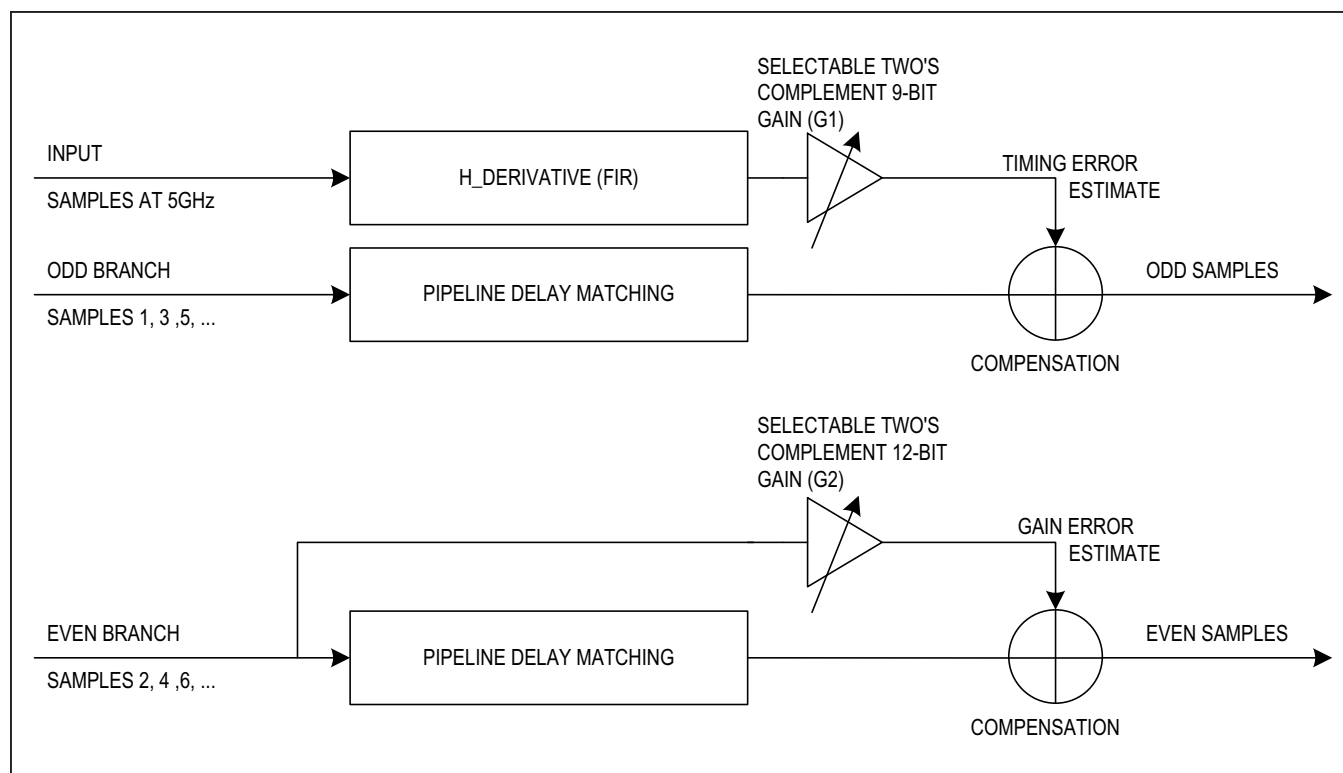

Figure 22. $f_{DAC/2} - f_{OUT}$ Correction Block
- **DAC Interleaving-Error Compensation:** Since the DAC is updating on both clock edges, every other sample has an error resulting from the clock duty cycle being different by 50%. The DAC can also have a gain error in every other sample. The DAC interleaving compensation can correct for these two errors. By optimizing for these errors, the $f_{DAC}/2 - f_{OUT}$ image is minimized. The block diagram of the DAC interleaving-error compensation block is shown in Figure 22.
programmable parameters, ranges, and resolution. Review the Register Descriptions section for programming information. The DAC interleaving compensation shown in Figure 22 contains two paths. Interleaving compensation adjusts for gain errors of every other sample, caused by either actual DC gain error or by clock duty-cycle error. The uppermost data path in this figure corrects for clock duty-cycle error. A duty-cycle error causes an error in the boundary between two samples that is proportional to the step size. In the uppermost data path, the step size is extracted and then every other step is extracted and scaled. The phase-correction filter aligns the phase of the correction signal with the transition between two adjacent samples. The lowermost data path extracts every other sample of the input signal and scales the input signal using the Gain 1 parameter. When added into the signal path, a gain adjustment for every other sample results.